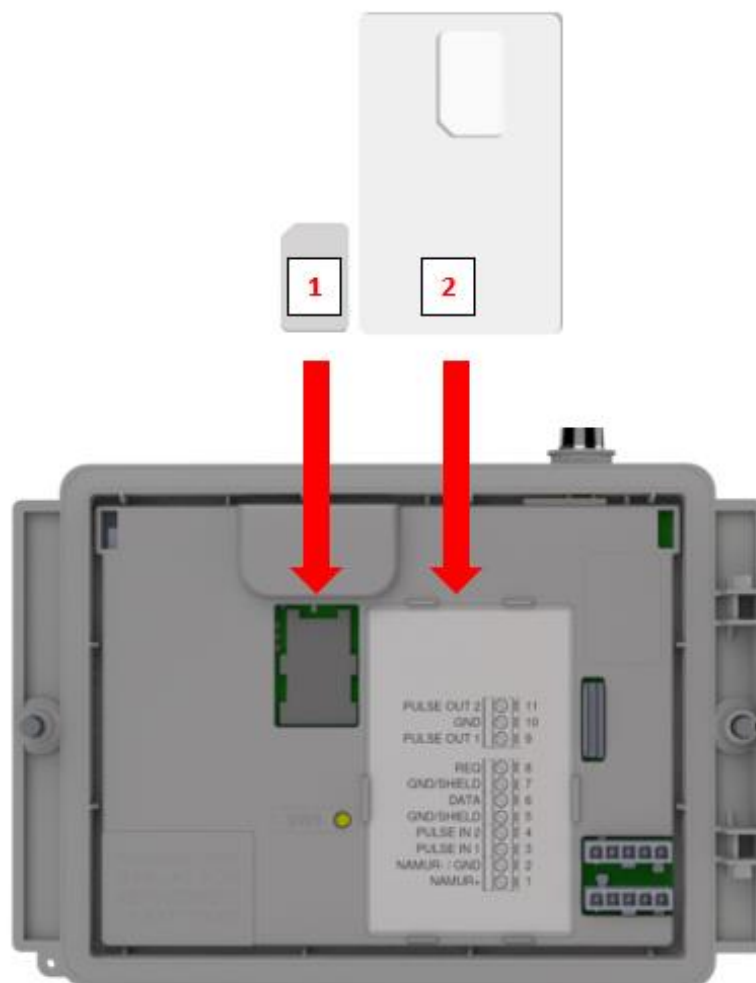

Figure 5: placement mini-SIM and SIM card
Press the metal-coloured fastening of the mini-SIM holder with little force and turn counterclockwise, unlocking the mini-SIM holder and opening it. The mini-SIM can be placed with the gold contacts facing backwards and the bevelled corner upwards (figure 5, item 1). Close the mini-SIM holder by performing the above-mentioned operations in reverse order.
Insert the SIM card as shown in figure 5, pos. 2.